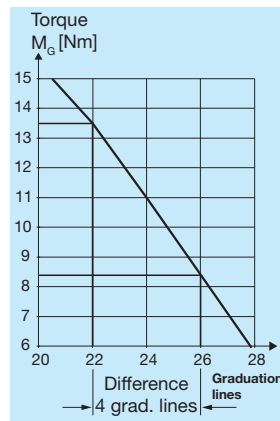
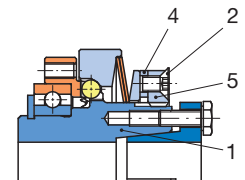

Fig. 4
Fig. 8
EAS[®]-NC Size 02 (Fig. 8 and Fig. 4):
- Loosen the locking screw (2).
- Grease the thread and contact surfaces on the adjusting nut (5), the locking ring (4) and the hub (1).
- The adjusting nut (5) is adjusted by hand up to contact on the cup springs (9).
- Continue to turn until the four notches on the circumference of the adjusting nut (5) and the notches in the locking ring (4) align.
- Turn the adjusting nut (5) further using a face wrench to the number of graduation lines which equal the required torque (Fig. 4, number of graduation lines in the Adjustment Diagram). The 4 notches on the circumference of the adjusting nut (5) and on the locking ring (4) must be in the same position.
- Paint the locking screw (2) with Loctite 243 and screw it into the adjusting nut (5).